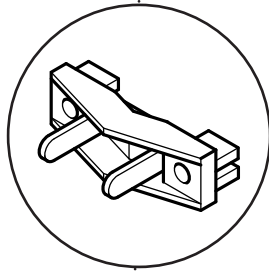

Fig. 31
2. Undo the two screws securing the cable clamp and place to one side (Fig. 31).
5. Connect the (S/L), (N) and (\oplus) wires to the 4-way terminal block (Fig. 33) and refit the cable clamp (Fig. 31).